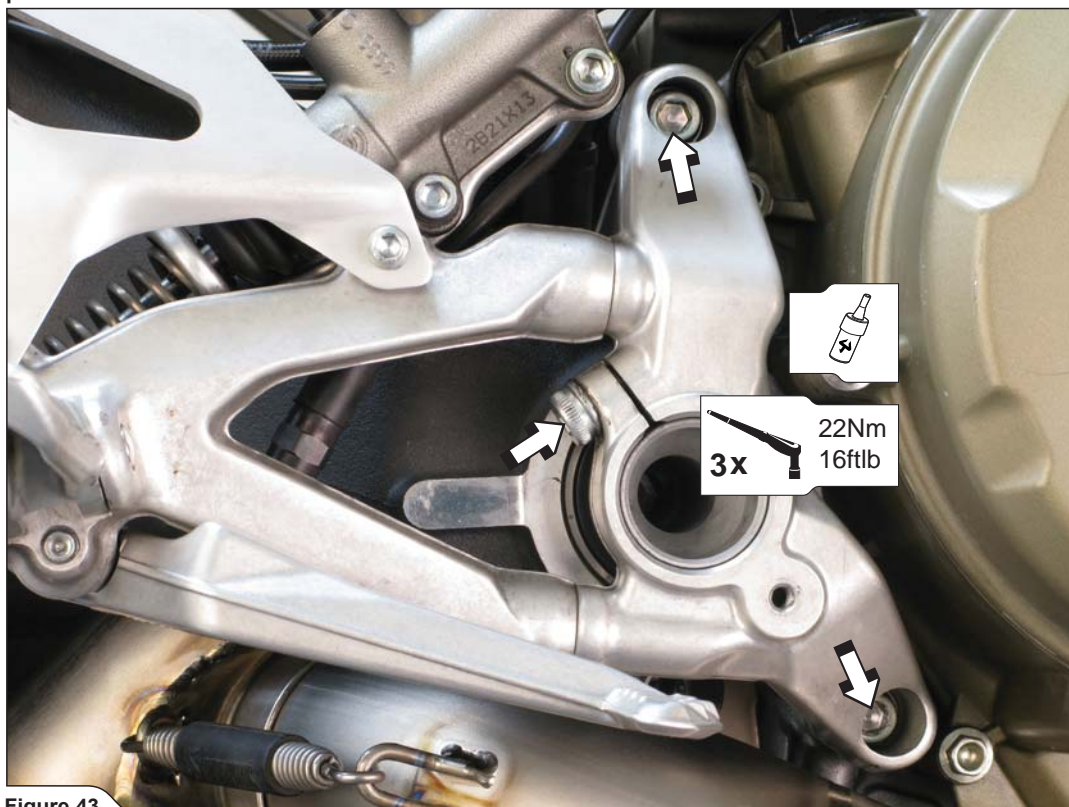

Figure 43
15. Reinstall the right rider's foot rest (Figure 43).